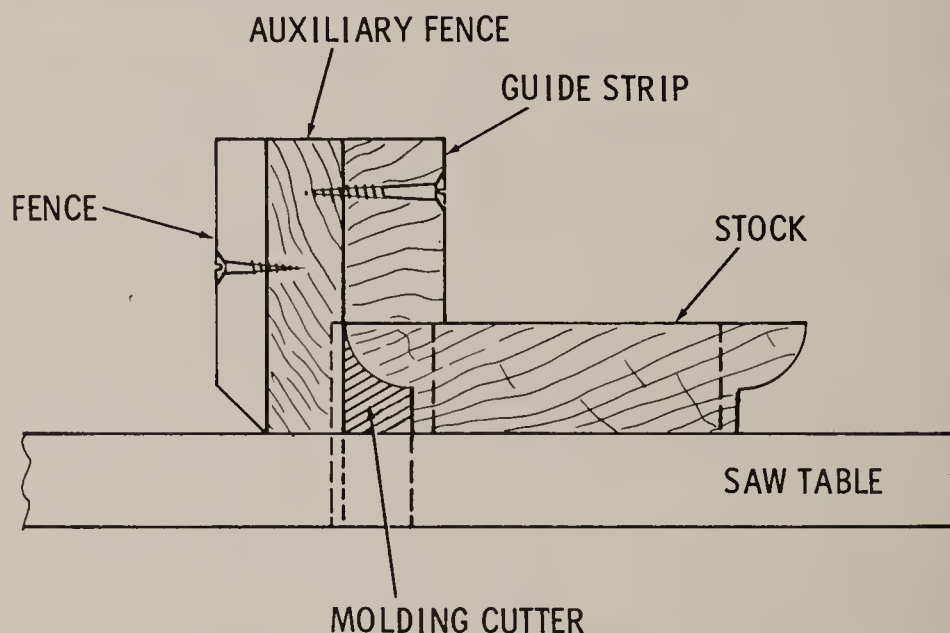

Fig. 22. Method of cutting moldings on circular saw. Moldings are ripped to size along dotted line.
1. When the saw is not equipped with a cut-out molding fence, it will be necessary to clamp or screw a board to the ripping fence as shown in Fig. 22. This is done to prevent injury to the knives and the fence and because the molding to be cut is seldom the full width of the knives.